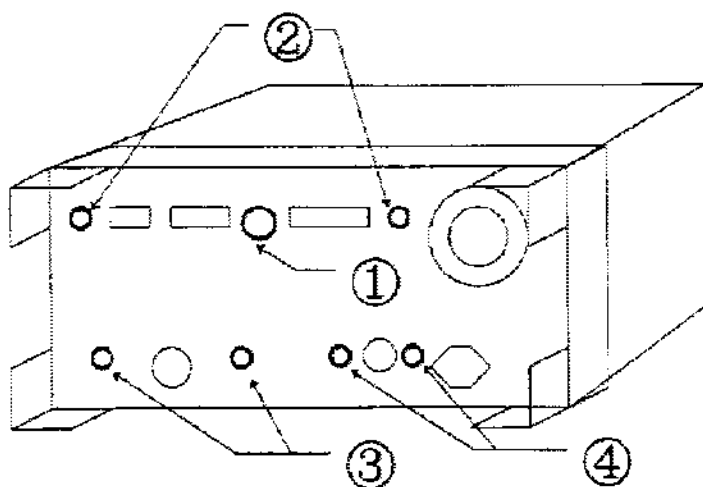
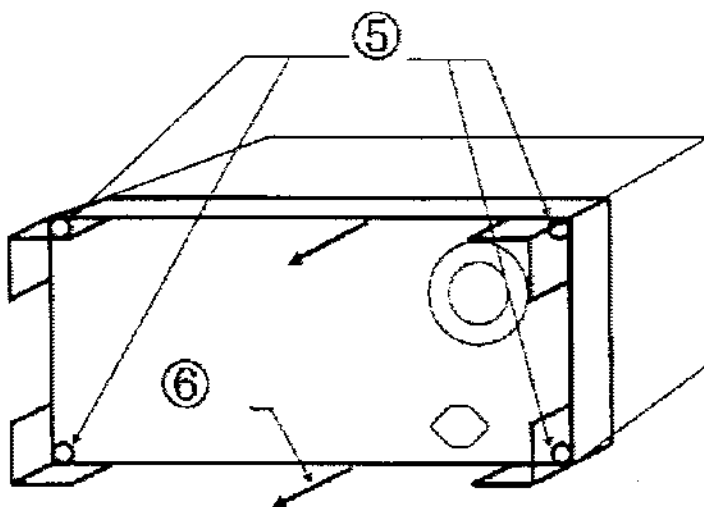

Fig.4
Fig.5
- ① Remove Hexagon nut and washer of EXTERNAL TRIGGER port on the rear panel (Refer to Fig.4)
- ② Remove 2pcs screws for CPU/AD board fixed on the rear panel. (Refer Fig.4)
- ③ Remove 2pcs screws for RF block fixed on the rear panel.
- ④ Remove 2pcs screws for Probe power on the rear panel (if installed)
- ⑤ Remove 4pcs Hexagon head screws as shown Fig.5
- ⑥ Pull FRAME REAR off from main frame. (Refer to Fig.5)